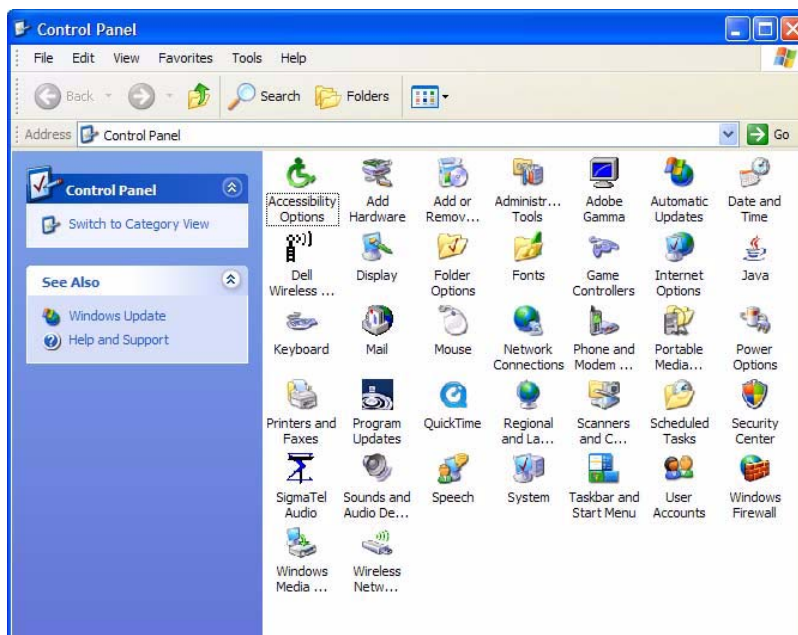

Figure 7-8 Control Panel
1. From the **Start** menu, point to **Settings** and then click **Control Panel**. (Figure 7-8).